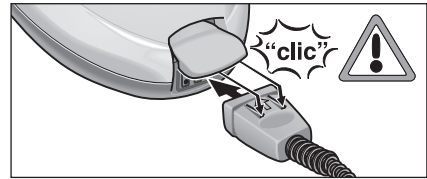

Figure 1: Inserting the modular accessory plug
- Firmly insert the modular accessory plug (C7) into the appliance connector (A1). Both pins of the modular accessory plug must lock into the cover of the appliance connector (see Figure 1).